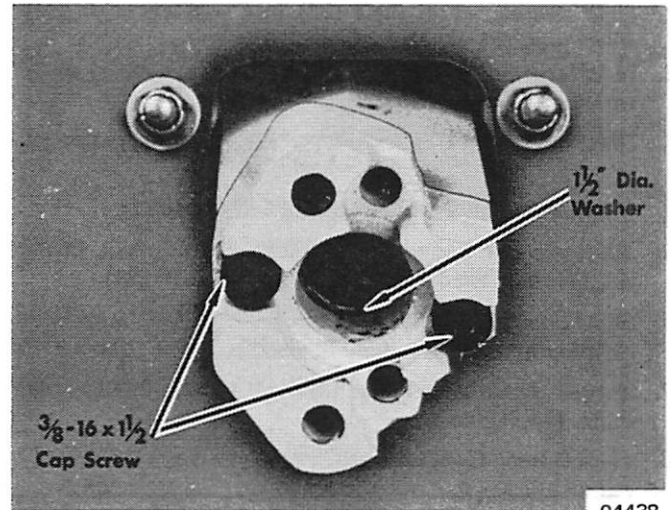

Figure 3. Adaptor on Steering Post
2. Place large 1-1/2" dia. washer between adaptor and steering wheel post and install adaptor to steering wheel post with two 3/8 - 16 x 1-1/2 socket cap screws. (Figure 3)